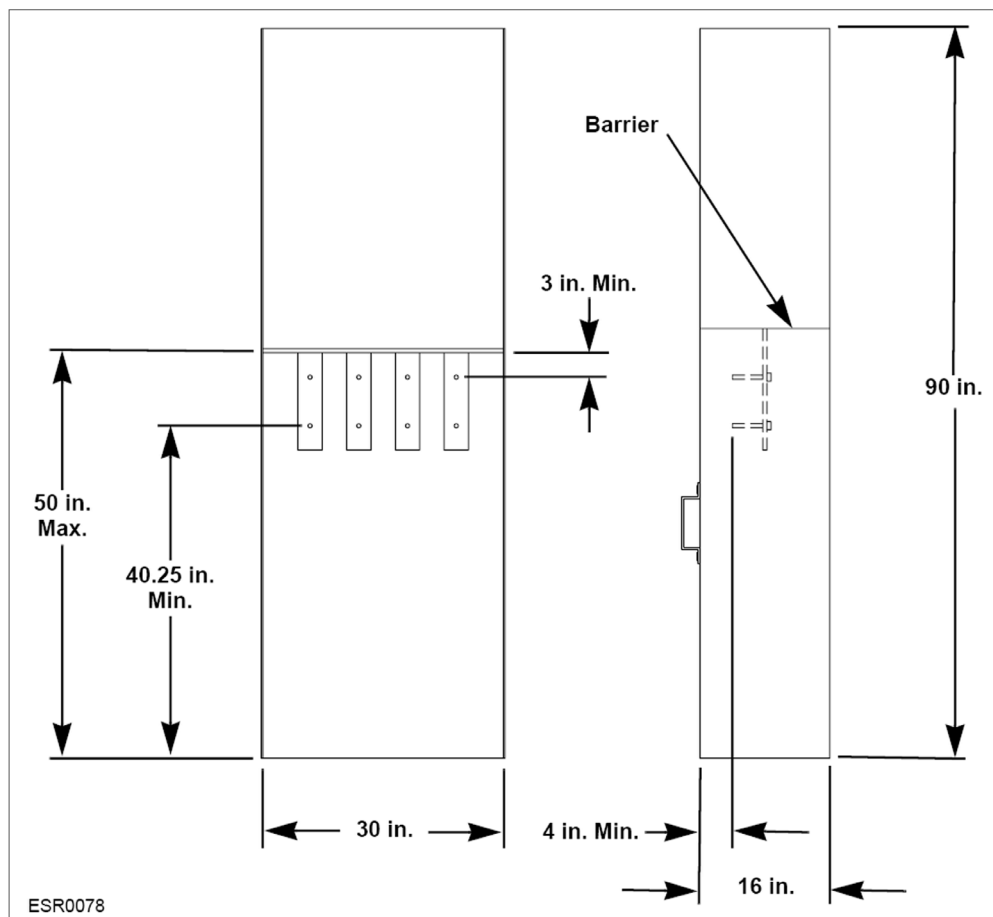

Figure 91: Load Section of an Indoor Switchboard (EUSERC 327)
- The load section of an indoor switchboard may be used by PGE as the terminating section for underground service (EUSERC 327) as shown in **Figure 91**.